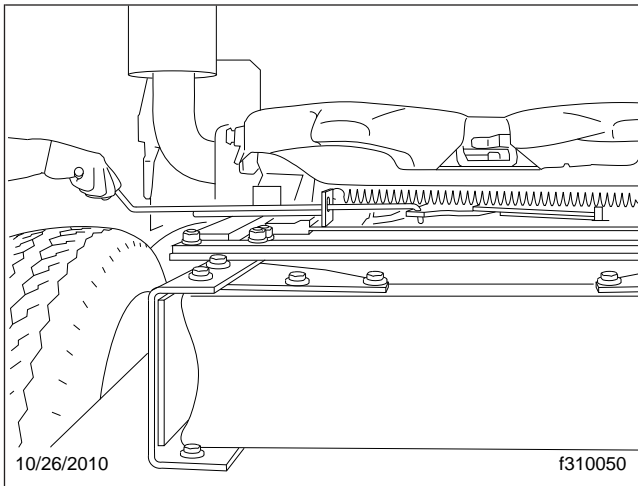

Fig. 10.19, Fontaine Sliding Fifth Wheel Manual Release
- 2.2 For manual release models, lift the slide release pull handle to disengage it from the guide plate. Then, pull out the handle (Fig. 10.19) until it is in the unlocked position and can be positioned against the